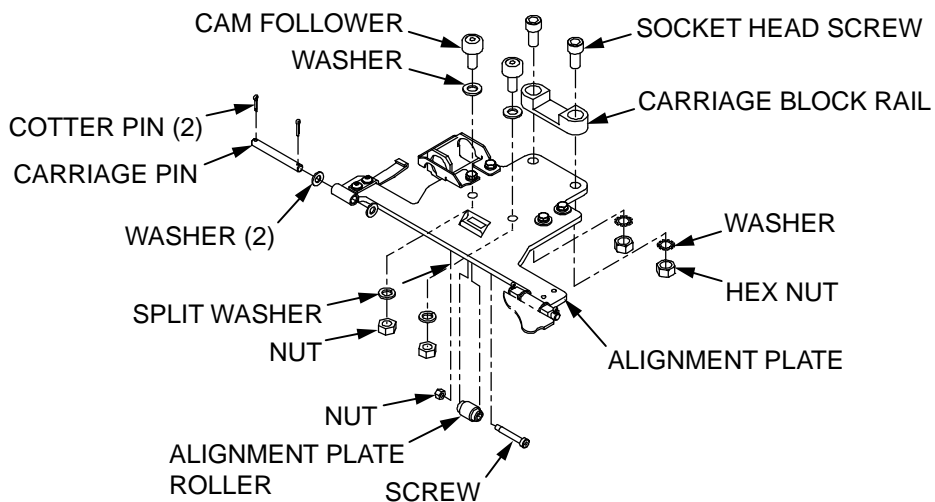

FIGURE 4-23: ALIGNMENT PLATE ASSEMBLY
- b. Refer to **Figure 4-23**. Remove two socket head screws.
- c. Refer to **Figure 4-23**. Remove and retain hex nut and washer.
- b. Refer to **Figure 4-23**. Remove and retain screw and nut from under the alignment plate
- c. Refer to **Figure 4-23**. Detach alignment plate roller.
- b. Refer to **Figure 4-23**. Align and attach alignment plate roller to alignment plate.
- c. Refer to **Figure 4-23**. Slide screw in through alignment plate and alignment plate roller.
- d. Refer to **Figure 4-23**. Install nut and tighten screw.
- b. Refer to **Figure 4-23**. Remove and retain nut and washer from cam follower.
- c. Refer to **Figure 4-23**. Detach cam follower.
- b. Refer to **Figure 4-23**. Slide cam follower into position.
- c. Refer to **Figure 4-23**. Install washer and nut then tighten.